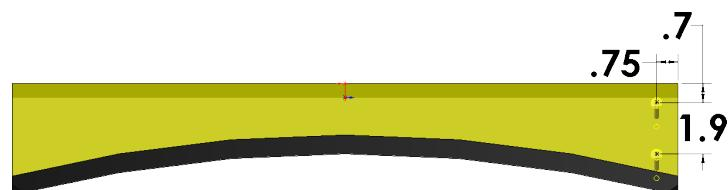

Fig. 29
Step 6. Click Smart Dimension  (S) on the Sketch toolbar.
Step 7. Dimension as shown in Fig. 29.
Step 8. Click Centerline  (S) on the Sketch toolbar.